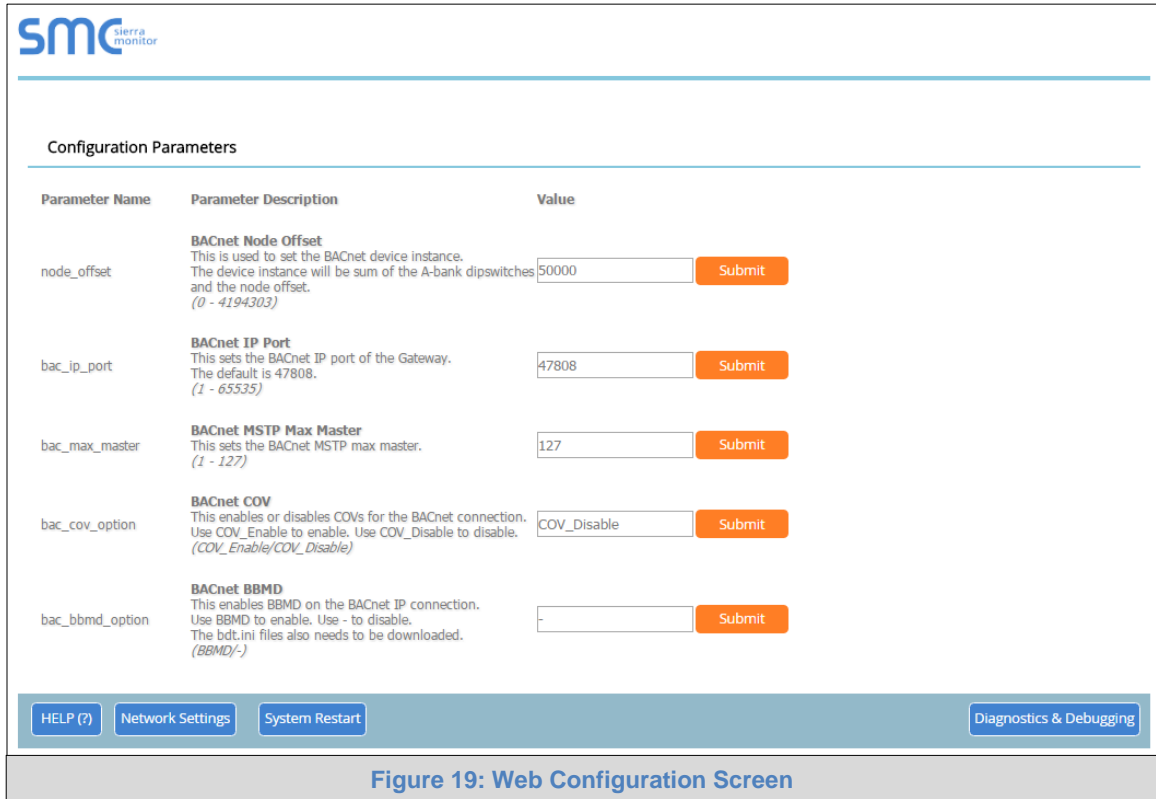

Figure 19: Web Configuration Screen
- The Web Configurator is displayed as the landing page. (**Figure 19**)
- To assign a specific Device Instance (or range); change the Node\_Offset value as needed in the Web Configurator (**Figure 19**) using the calculation below: